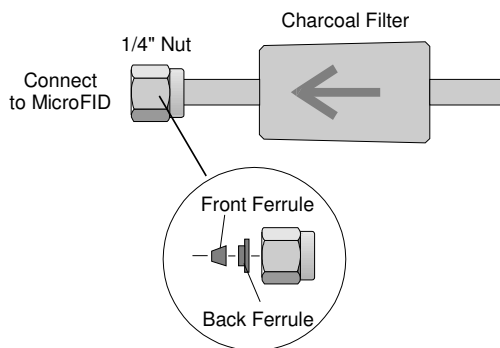

Figure 17 Connecting Charcoal Filter
1. Load the Teflon ferrules into the nut. The nut and ferrules are supplied with the filter. See Figure 17.